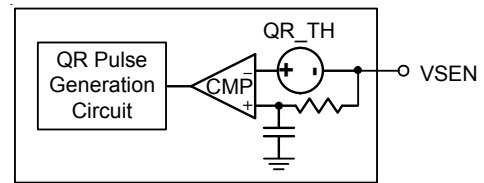

Figure 12. VDD Controller: Quick Response Triggering Circuit
When the transient load step-up becomes quite large, it is difficult for loop response to meet the energy transfer. Hence, the output voltage generate undershoot to fail specification. The RT3662AC has Quick Response (QR) mechanism which is able to improve this issue. It adopts a nonlinear control mechanism which can disable interleaving function and simultaneously turn on all UGATE one pulse at instantaneous step-up transient load to restrain the output voltage drooping. The output voltage signal behavior needs to be detected so that QR mechanism can be triggered. Refer to Figure 12, the output voltage signal is via a remote sense line to connect at the VSEN pin. The QR threshold can be set by SET1 pin setting for VDD controller refers to Table 3.
Then solving the switching condition V_{COMP2} = V_{CS} in Figure 12 yields the desired error amplifier gain as